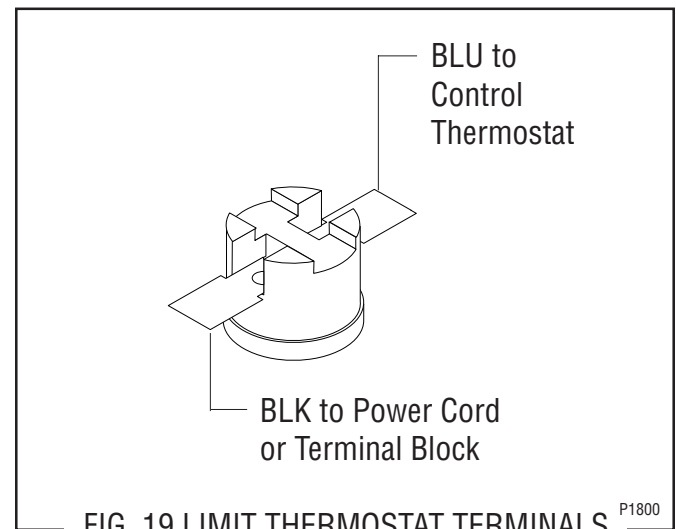

FIG. 19 LIMIT THERMOSTAT TERMINALS
4. Refer to Fig. 19 when reconnecting the wires.